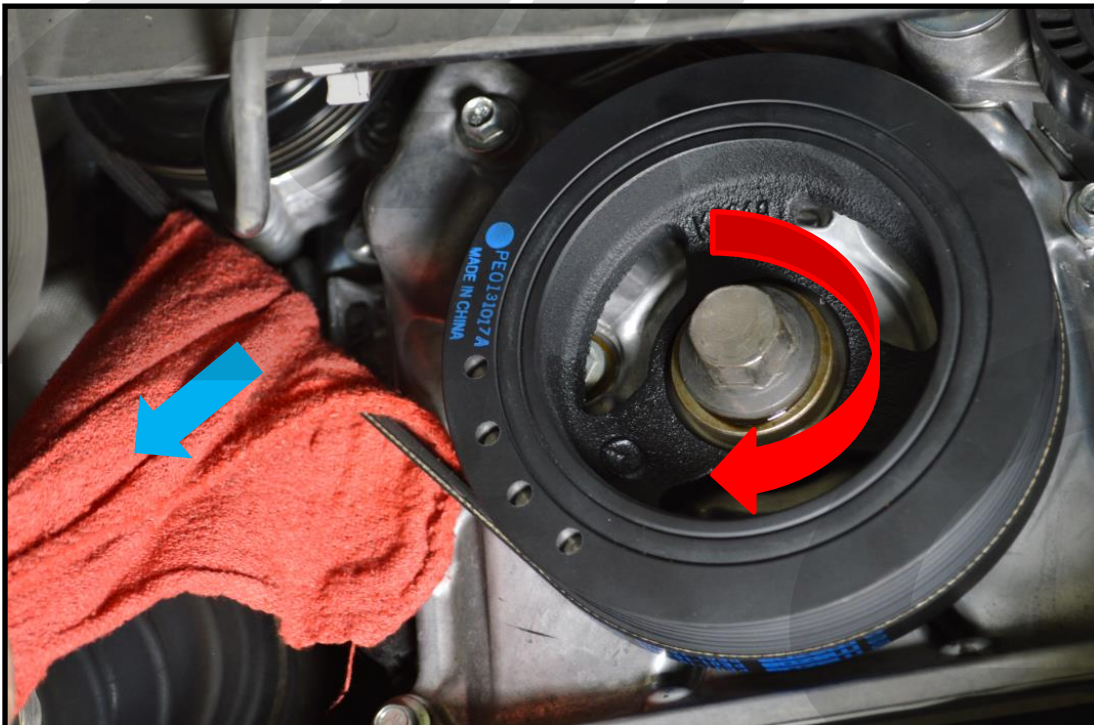

Figure 3c
- c) **Remove the water pump belt (aka the stretchy belt).** Shown in **Figure 3c**, use the clean shop towel to pull the belt in the direction of the blue arrow and outward while rotating the crank clockwise. This should walk the belt off the water pump pulley.